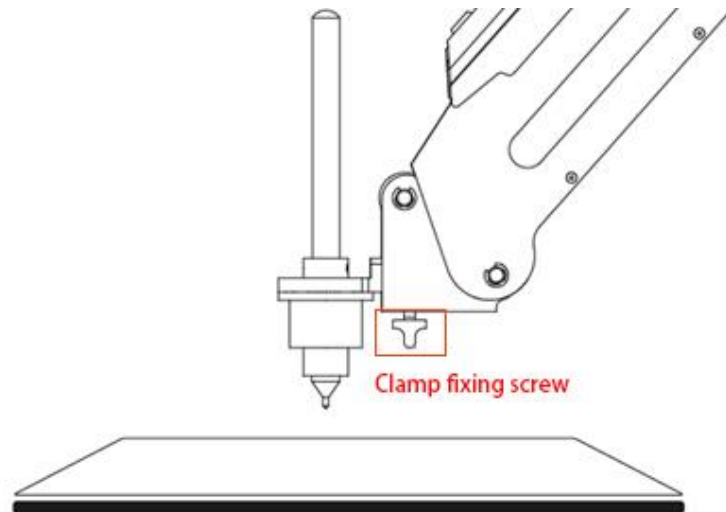

Figure 5.36 Install a writing and drawing kit
Step 2 Fasten the writing and drawing kit to the Dobot Magician's end with clamp fixing screw, as shown in Figure 5.36.